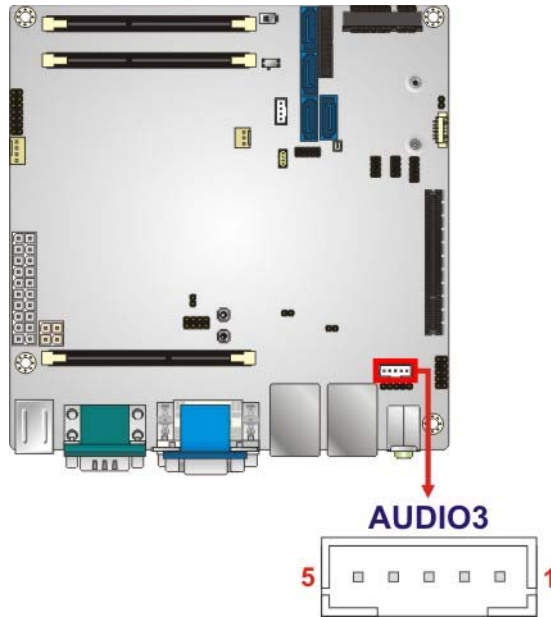

Figure 3-5: Audio Amplifier Connector Location
- CN Location:** See **Figure 3-5**